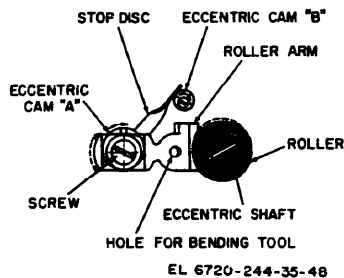
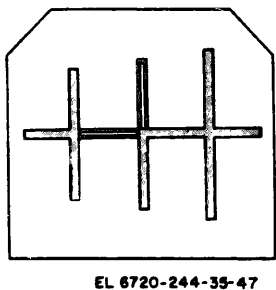

Figure 4-20. Range-viewfinder roller arm.
Figure 4-21. Rangefinder image at 10 meters.
(d) Turn the eccentric shaft (fig. 4-20), using tool No. 73, until the rangefinder image coincides laterally with the graticule.
(e) Set the distance setting gauge to infinity, and then turn it to the 10-meter setting. From this position rotate the gauge back and forth several times between the click stops which define the 10-meter range. Set the distance gauge to 1 meter, turn it to 10 meters, and again rotate the gauge back and forth within the 10-meter range. While rotating the gauge, within the 10-meter range, the rangefinder image should remain stationary and agree laterally with figure 4-21. If it does not, insert tool No. 74 in the bending tool hole (fig. 4-20), and align the roller arm. Re-check, and readjust, until the requirements are met.
1. Loosen the screw holding eccentric cam A (fig. 4-20), using tool No. 75. Turn the cam until the lateral image coincides with the crosslines. Tighten the screw.